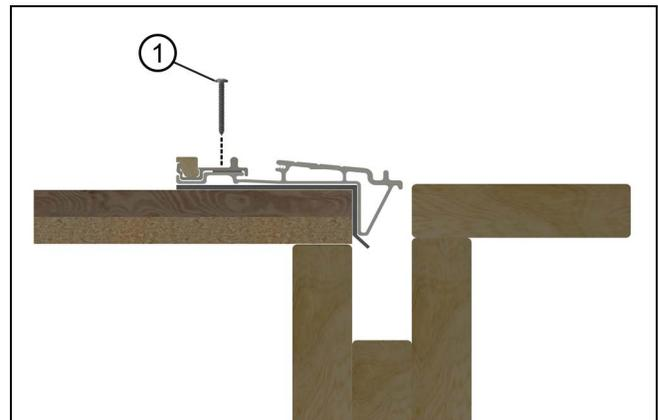

Figure 20 Low profile sill
3. **Optional:** Secure the low profile sill by applying 1/2" x 3/8" foam tape to the bottom and fastening with 1 1/2" pan head screws. Center the screws in the slot. See Figure 20